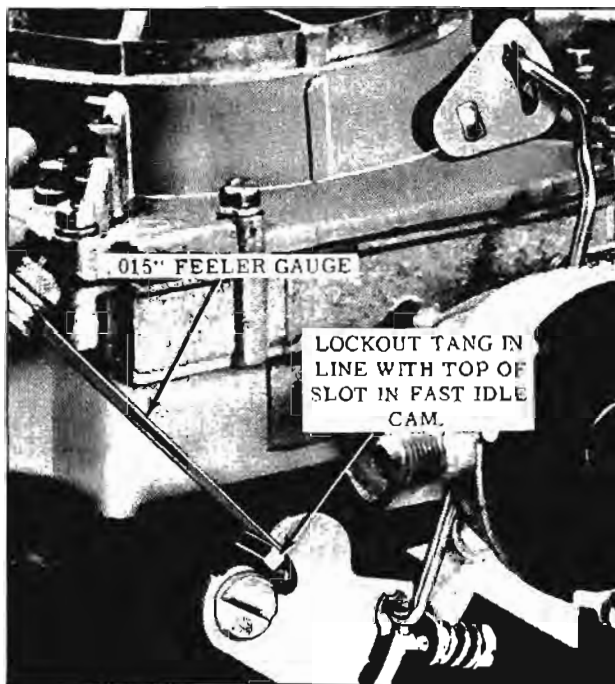

Fig. 9-189 Secondary Throttle Lockout Adjustment
1. Measure the clearance between the lockout tang and the top edge of the slot in the fast idle cam. The clearance should be  $.015'' \pm .005''$ . (Fig. 9-189)